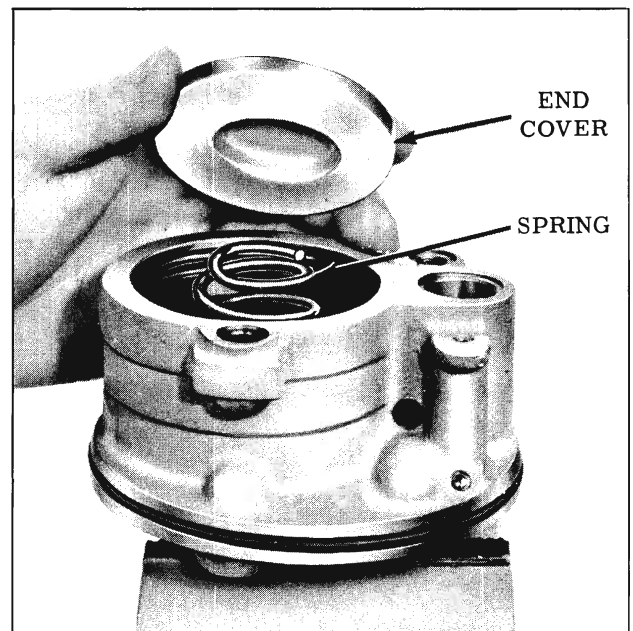

Fig. 4-245 Installing Cover
9. Install pressure plate spring in recess of pressure plate. (Fig. 4-245)